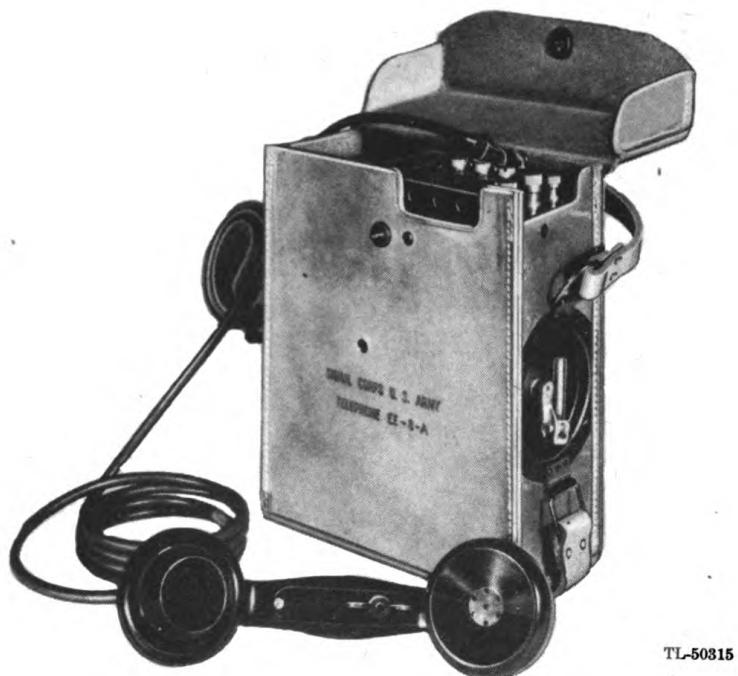

FIGURE 7. Telephone EE-8-(*).
7. TELEPHONE EE-8-(*).—Telephone EE-8-(*) (fig. 7) is for field use on either local battery or common battery systems and may be used as a test telephone, an operator's telephone for mono-cord switchboards, or with a head and chest set equipped with Plug PL-58 accommodated by the jack of Telephone EE-8-(*) . A screw switch is provided on the terminal block for adjusting the telephone for use with either a local battery or common battery line. For common battery use, the screw is turned clockwise (to the right) as indicated by the arrow pointing to CB. For local battery use, the screw is turned counterclockwise (to the left).